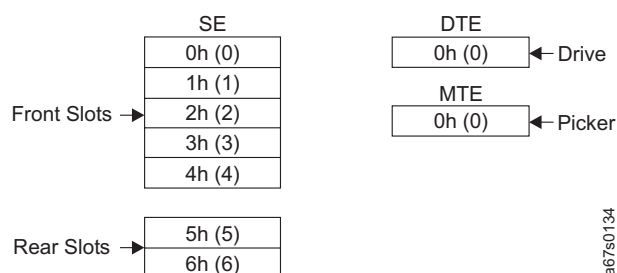

Figure 53. SCSI element addresses for the 3581 Tape Autoloader. The unit uses the Windows 2000 operating system and does not contain a bar code reader.
Figure 53 shows the SCSI addresses for the elements in an autoloader that uses the Windows 2000 operating system and does not contain a bar code reader. The addresses are given in both hexadecimal and decimal (in parentheses) format. In SCSI terms, the storage slot is known as the storage element (SE), the drive is known as the data transfer element (DTE), and the picker is known as the Medium Transport Element (MTE).